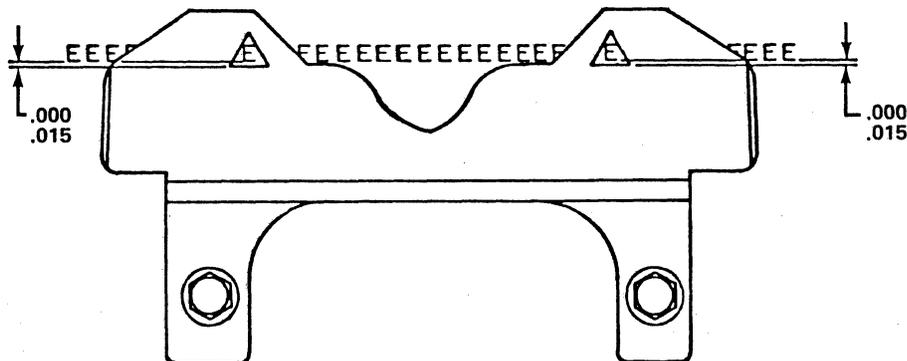

Figure 5-24 CARD GUIDE ALIGNMENT
# Refer to Figure 5-24. Check the alignment of the card guide. As shown, the bottom lines of the printed A's must be even with the bottom edges of the triangular openings (A1) in the card guide (A) within .000" to .010" as shown. Make minor adjustments to the card guide height as required to achieve proper card guide positioning. See NOTE in subsection 5.4.4.3 step 2.